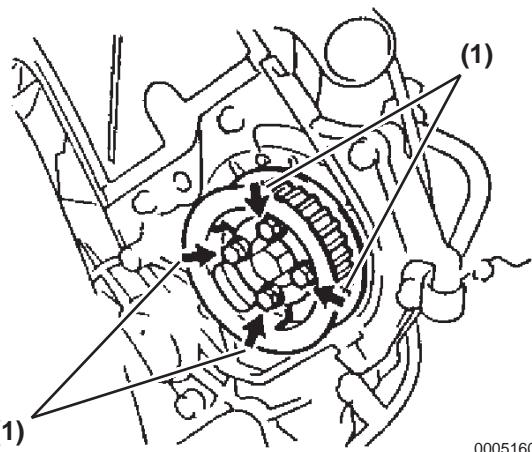

Figure 5-162
- Remove the four bolts (Figure 5-162, (1)), No. 2 flange, timing pulley and No. 1 flange.